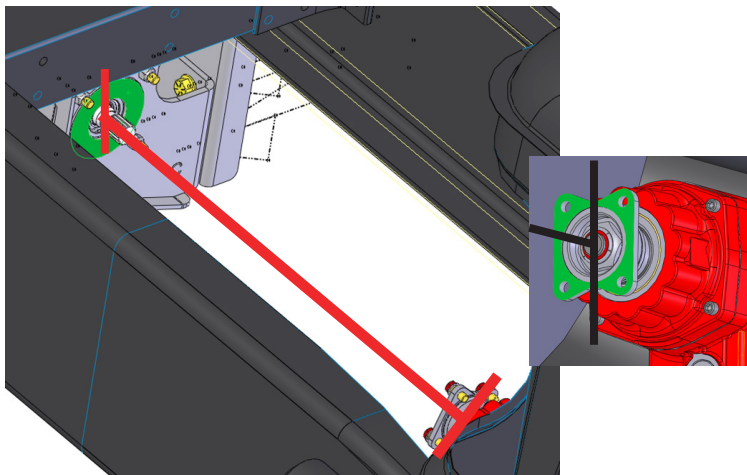

Figure 7
2. Use a tape measure to measure from the PTO flange to the front face of the pump on the vehicle (Figure 7 shown with the CV shaft removed for illustrative purposes only. There is no need to remove the CV shaft to obtain the measurement).